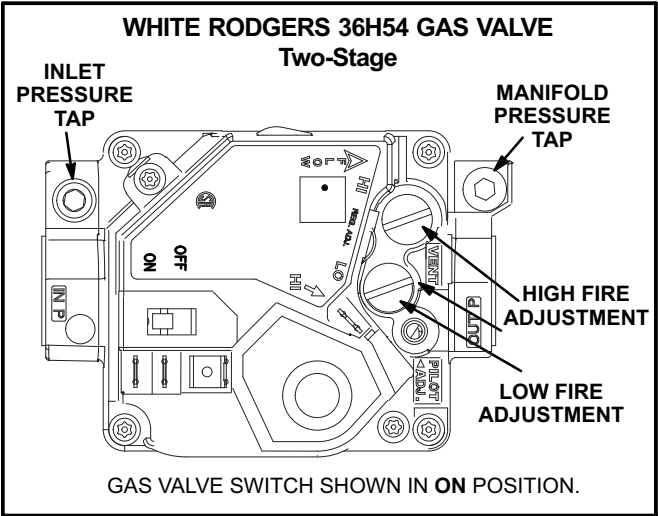
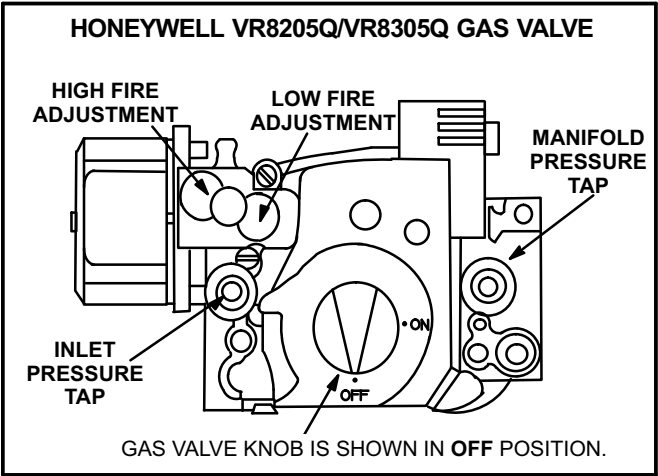

FIGURE 23
FIGURE 24
Gas Valve Operation for Honeywell VR8205Q/VR8305Q and White Rodgers 36H54 (figure 23 and 24).
- 6- Turn gas valve switch to **OFF**. See figure 23. On Honeywell VR8305Q gas valves, turn the knob on the gas valve clockwise  to "**OFF**". Do not force. See figure 24.
- 7- Wait five (5) minutes to clear out any gas. If you then smell gas, **STOP!** Immediately call your gas supplier from a neighbor's phone. Follow the gas supplier's instructions. If you do not smell gas, go to the next step.
- 8- Turn gas valve switch to **ON**. See figure 23. On Honeywell VR8305Q gas valves, turn the knob on the gas valve counterclockwise  to "**ON**". Do not force. See figure 24.